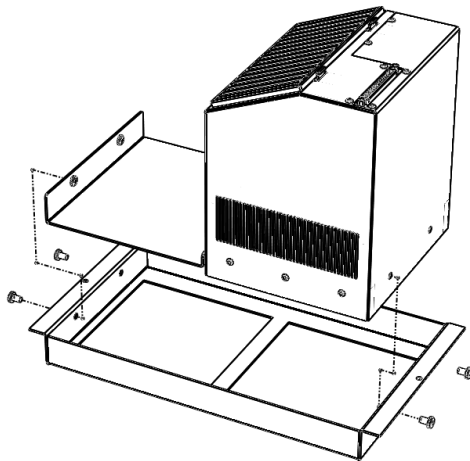

Figure 6. Single Array Mounted to Cradle Adapter Plate
- a) Mount the LED Array to one side of the Cradle Adapter Plate using two M5 x 8-mm screws (Figure 6).